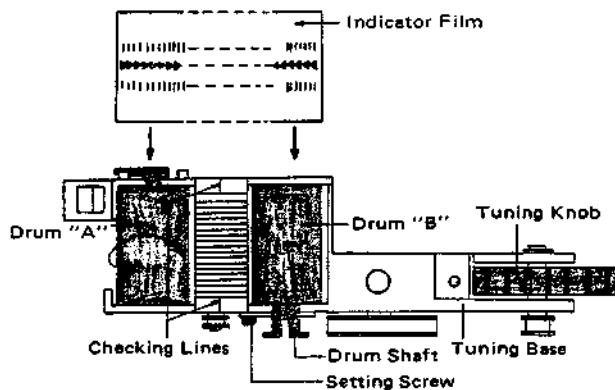

Fig. 30
2. Turn drum "A" indicated in Fig. 30 10 times clockwise previously and stick left end of dial indicator film to drum "A".
4. Unfasten a setting screw fastening drum shaft of drum "B" and pull up drum shaft a little from drum "B" (Fig. 30).